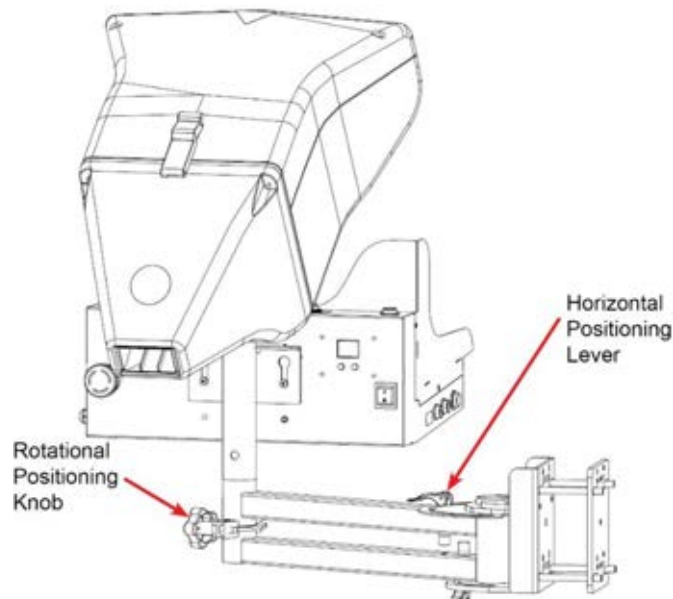

Figure 19 Horizontal Swivel Arm Positioning
1. Turn the Rotational Positioning Knob three turns counterclockwise to loosen the **Dispenser Head** (refer to Figure 19).
1. Release the Horizontal Positioning Lever by lifting the handle to loosen the swivel arm (refer to Figure 19).